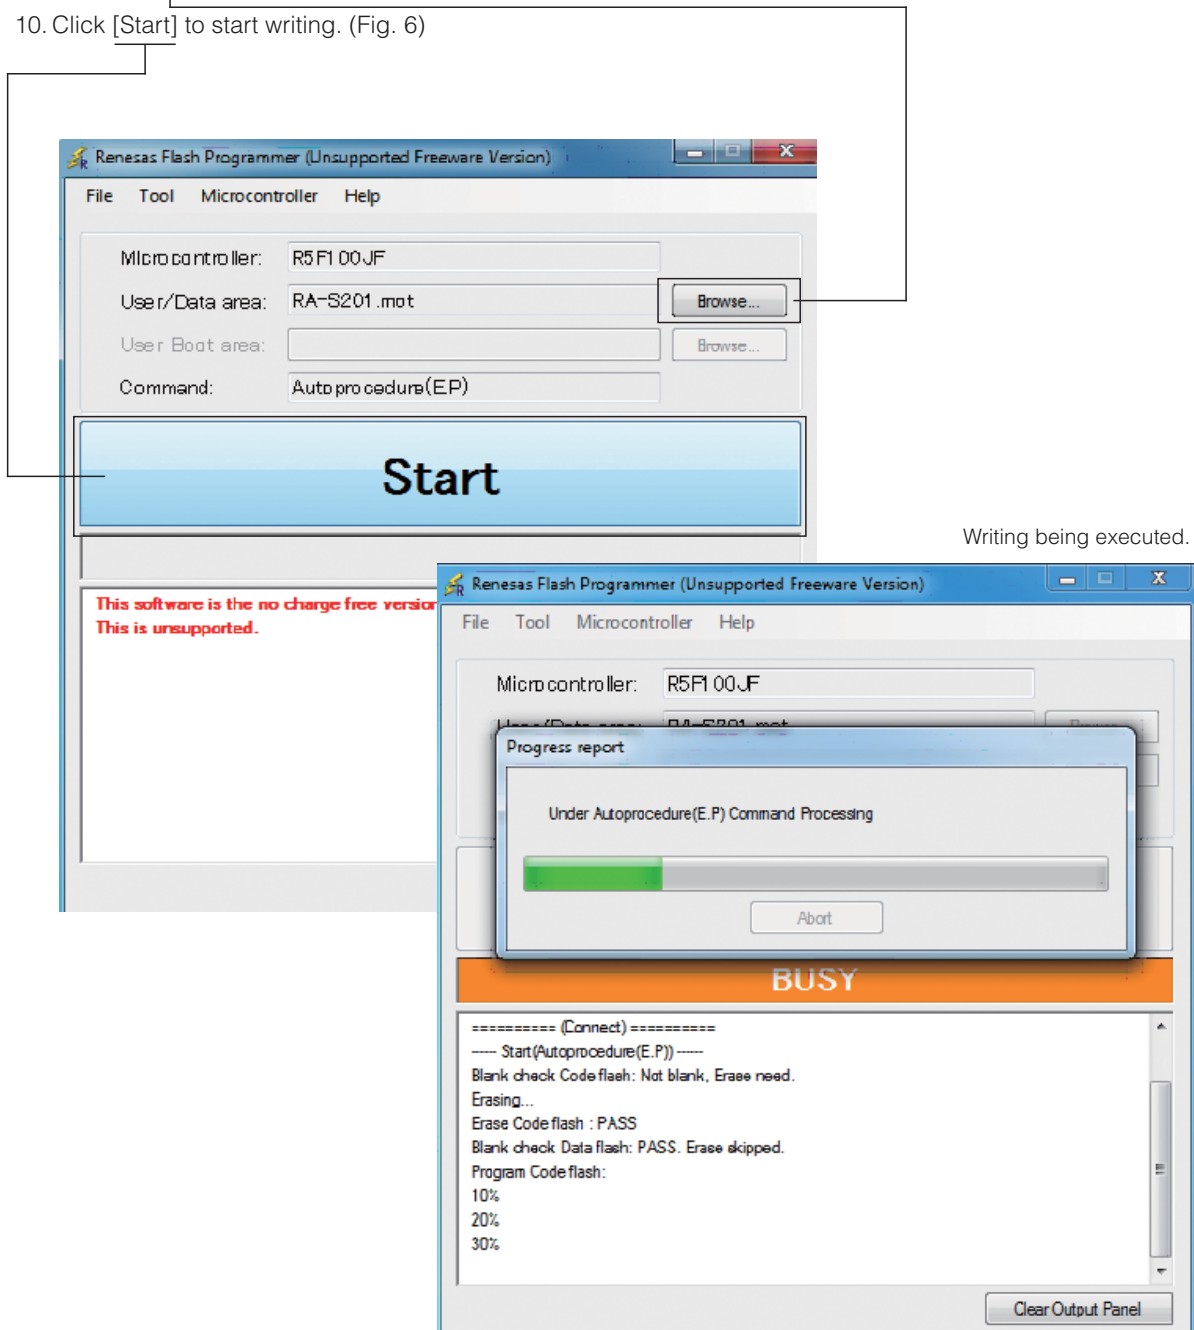

Fig. 6
9. Click [Browse...] and select the firmware name. (Fig. 6)
10. Click [Start] to start writing. (Fig. 6)